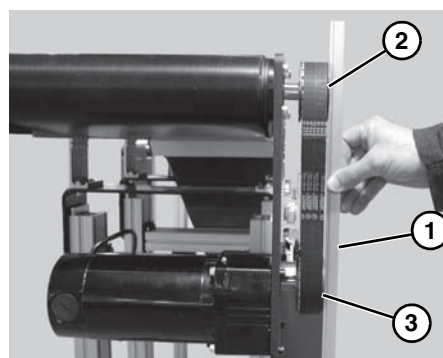

Figure 7
7. Using a straight edge (**Figure 7, item 1**), align driven pulley (**Figure 7, item 2**) with drive pulley (**Figure 7, item 3**).